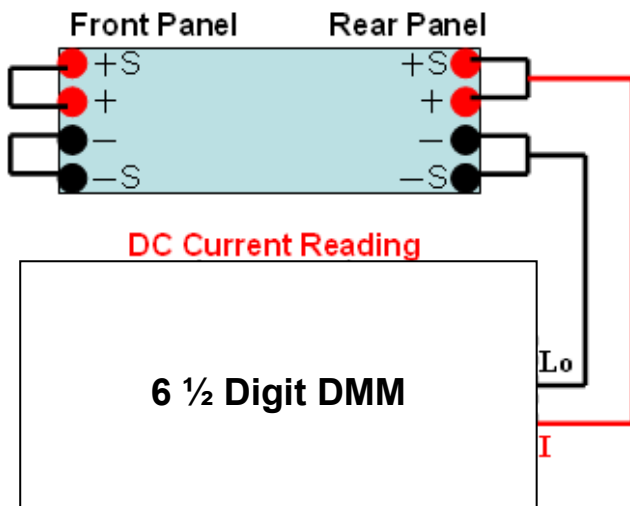

Figure 31 - Current Calibration Setup
- If the maximum output current of the power supply is within the current limit of the DMM, then use the wire connections shown in Figure 31 to calibrate current.